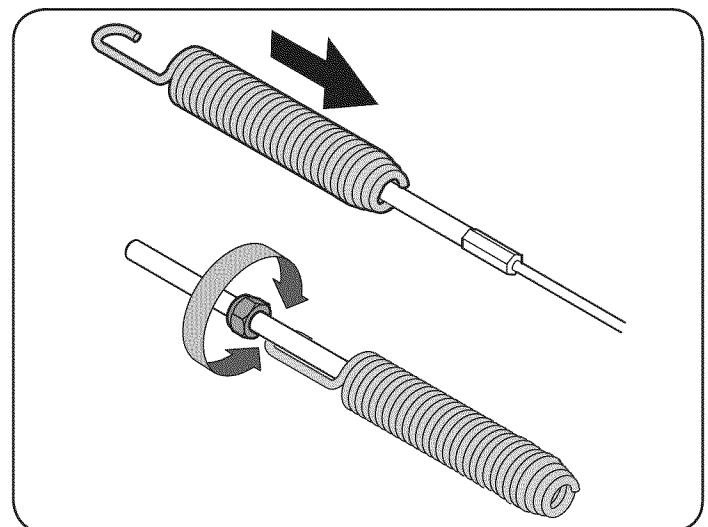

Figure 15
- Slide the spring up the cable to expose the cable coupler threads and lock nut. Refer to Figure 15.